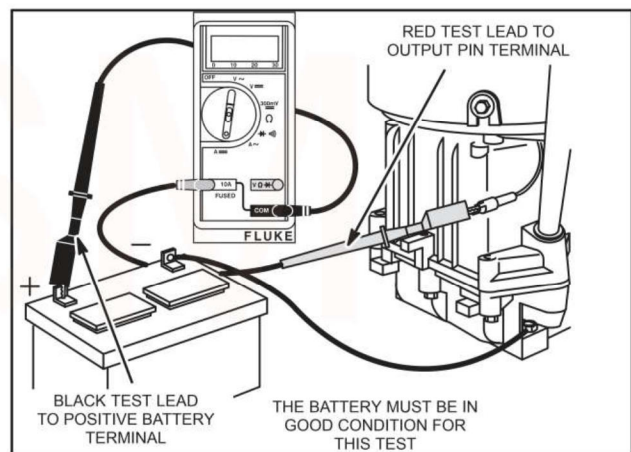

Fig. 11 – Testing DC Output
4. Attach RED test lead clip to DC output terminal, Fig. 11.